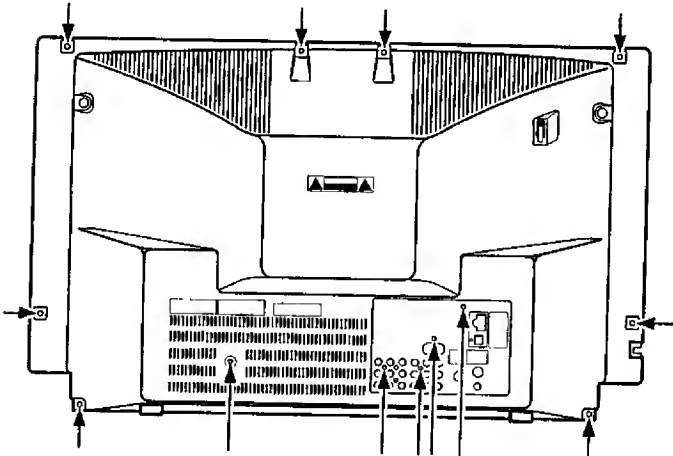

Figure 1. Cabinet Back Removal
1. Refer to Figure 1, remove 13 screws.